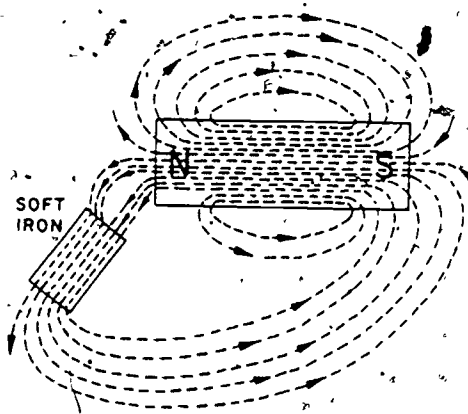
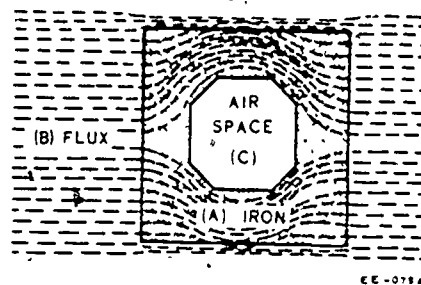

Figure 31
Figure 32.
MAGNETIC INDUCTION. When a magnetic substance such as iron is brought into a magnetic field so that the magnetic lines of force pass through it, the substance immediately becomes magnetic. The lines of force are assumed to crowd together and tend to pass through the magnetic substance as indicated in figure 31 because it is a better conductor for lines of force than the surrounding air.
MAGNETIC SCREEN. When a magnetic material such as soft iron is placed near a magnetic field, the lines of force of the field will tend to pass through the iron instead of the surrounding air, as the iron provides an easier path and is said to have high permeability. (See figure 31.) This principle is used in the magnetic screen, which provides a space in the magnetic field that is free from the lines of force as indicated in figure 32. The iron at (A) is rectangular in shape and the air space free from the flux (B) is shown at (C). This condition could not be obtained by surrounding the space by glass, porcelain, copper, or other nonmagnetic material, since the reluctance (opposition) to lines of force of these is about the same as that of air. The magnetic screen is sometimes used to shield delicate measuring instruments from stray fields and thereby increase their efficiency.